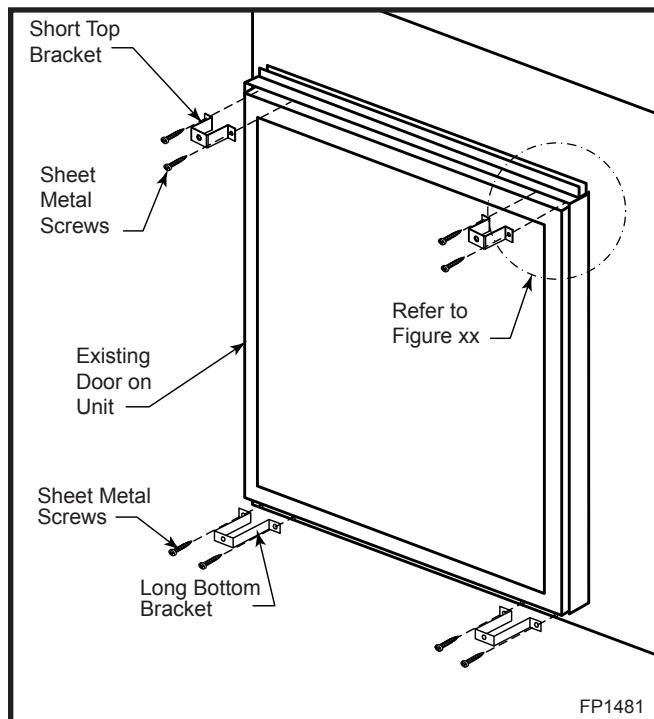

Fig. 27 Use sheet metal screws to attach brackets to existing holes under glass frame assembly.
2. Install the two (2) bottom (longer) brackets, using sheet metal screws, at the bottom right and left corners of the unit. (Fig. 27)
3. Install the two (2) short brackets, using sheet metal screws, at the top right and left corners of the fireplace window frame. (Fig. 27) **NOTE:** If top corners of the window frame do not have two (2) pre-drilled holes, you must drill these holes per Step 4.